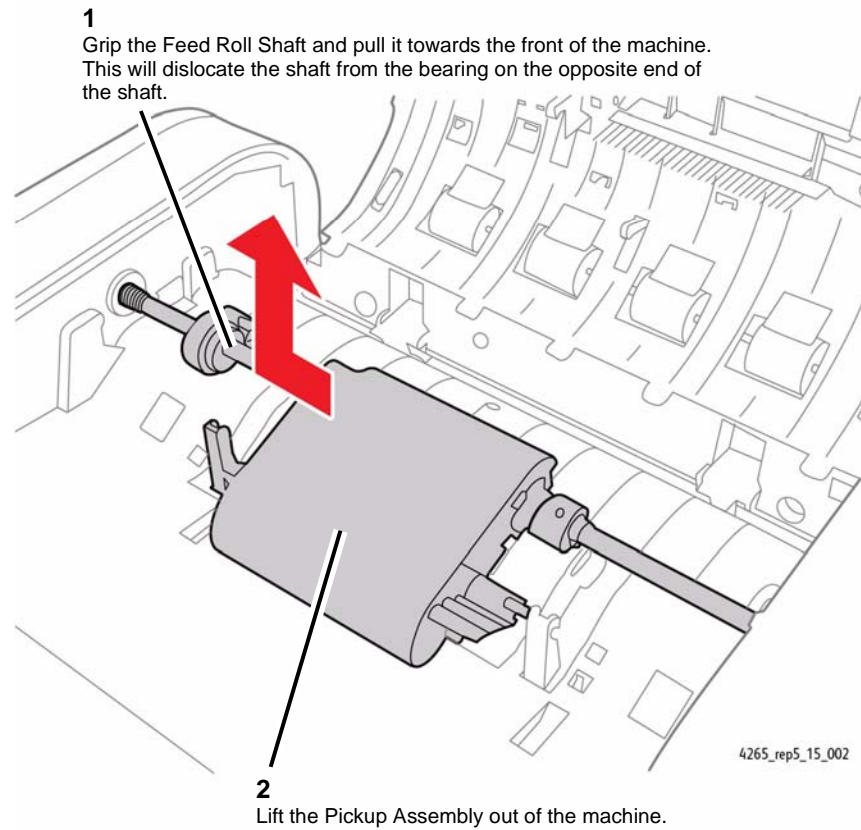

Figure 2 Removing the DADF Pickup Assembly
4. Remove the DADF Pickup Assembly from the machine (Figure 2).